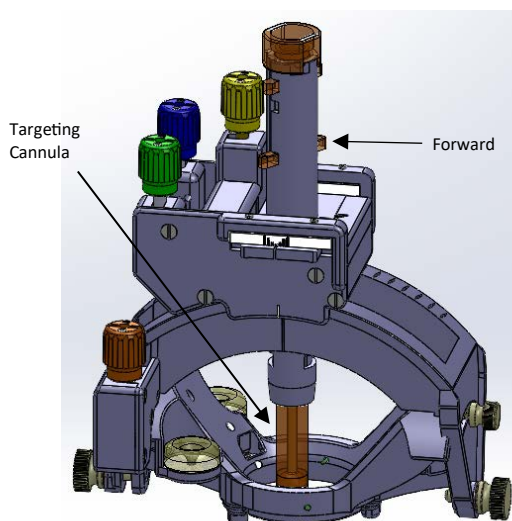

Figure 7: Targeting Cannula positioning and Tower/Base Orientation
11. Confirm that the Targeting Cannula is in the forward position to begin the procedure. See Figure 7.